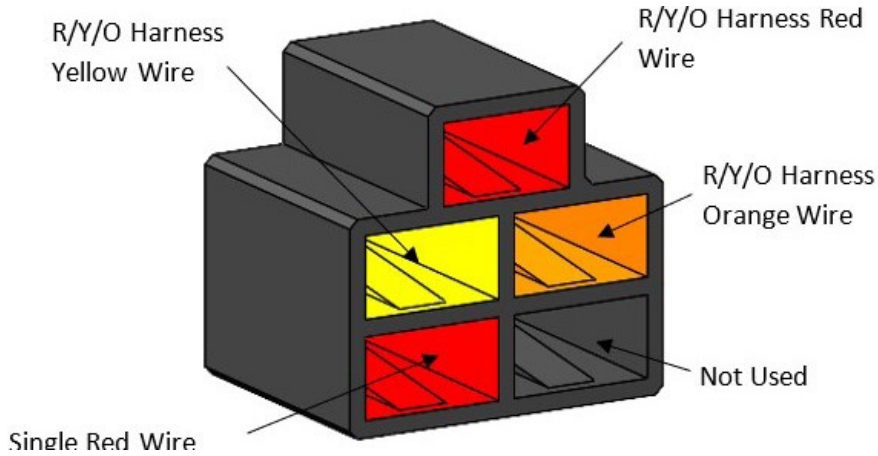

FIGURE 8
10. Locate the 96" wiring harness and ensure the wires are correctly connected to the 5-pin black connector as shown in **FIGURE 8** and the 4-pin white connector as shown in **FIGURE 9**.